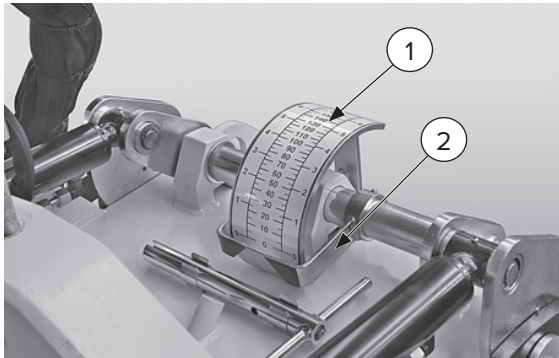

Figure 8
3. Use the graduated index [Figure 8, Item 1] and the reference rod [Item 2] to define the depth reached.